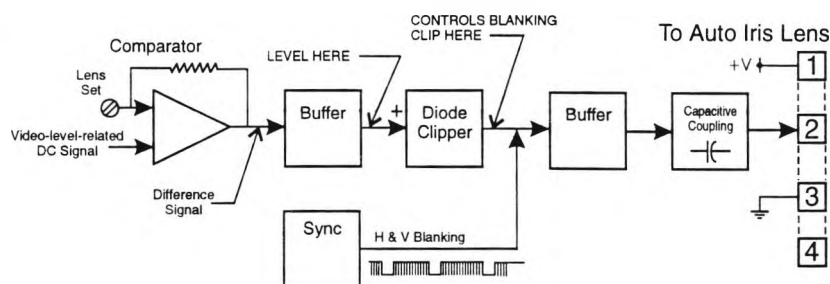

Fig. 4. Derived Video Drive for Auto-iris Lens
signs (fig. 4) generate a derived video obtained by modulating the composite blanking signal with a dc signal related to video level. (2) More-recent designs use true video tapped off (prior to agc) and isolated from the
Figure 4 shows generation of the derived video from composite blanking. A dc signal related to the video level is applied to a comparator stage. One input of this stage is biased by a Lens Set potentiometer. The other input receives a dc signal whose level relates to the level of the video output of the camera. The output of this comparator is a difference (error) signal that is buffered for application to the plus (+) side of a diode clipper. The voltage level at this side of the diode clipper determines the clipping level of the composite blanking (an ac
Figure 4 shows a method of increasing the number of Slave Cameras in a genlock configuration. By replacing the Master Camera with a dedicated sync generator the number of Slave Cameras that can be put on
Figure 4. Instead of a Master Camera driving the Slave Cameras a sync generator can be used. The typical sync generator will have the ability to drive more Slave Cameras than a camera is capable of driving. The sync generator provides horizontal and vertical sync pulses, but no video. In this arrangement the last Slave Camera at the end of the cable must be terminated with 75 ohms. All other Slave Cameras must provide a high impedance to the genlock cable.